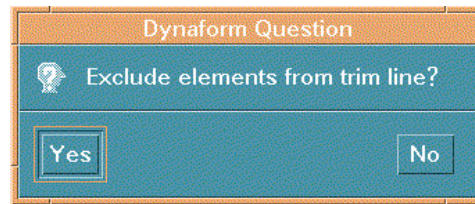

Figure 5.5.2 Dynaform Question
4. Finally, a DYNAFORM Question dialog window appears, see Figure 5.5.2. YES excludes the elements outside the boundary of the trim line; NO excludes elements within the boundary of the trim line.